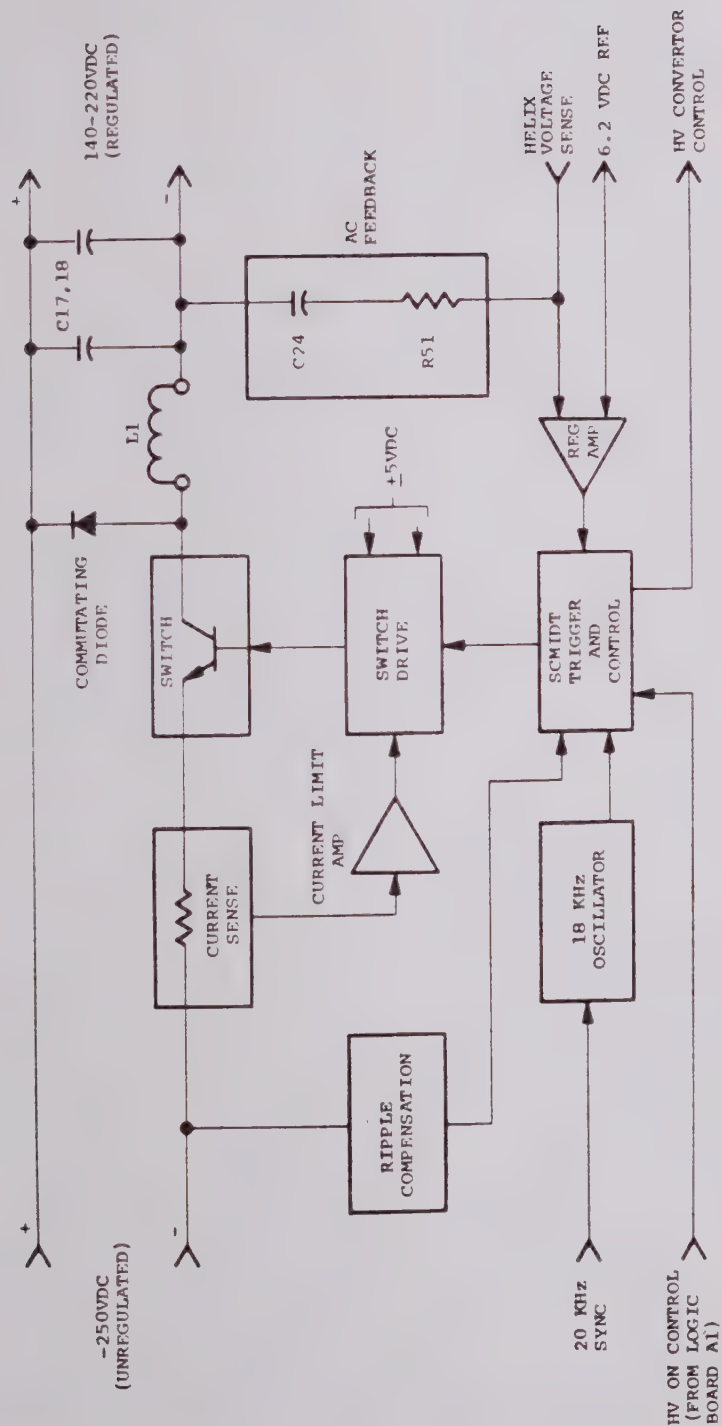

FIGURE 5-5 FUNCTIONAL BLOCK DIAGRAM-SWITCH REGULATOR
5.2.4.1 General. This function of the switch regulator is to maintain a well regulated approximately -200 VDC bus that drives the high voltage circuits. The -200 VDC referred to throughout the text may actually be any voltage between -140 and -220 VDC and is determined by the TWT helix voltage required and high voltage module connections. This unit also incorporates features to control the HV converter and to respond to external shutdown commands from other circuits. A functional block diagram of the Switch Regulator is shown in Figure 5-5. The power handling circuits are shown in the top
half of Figure 5-5 and the control circuits in the lower half of the figure. Circuit details are given in the A3 schematic in Section 7.